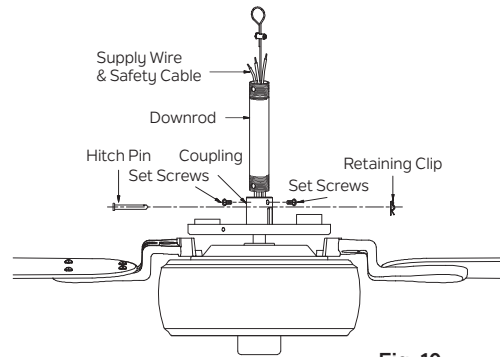

Fig. 10
Step 7. Loosen the two set screws and remove the hitch pin and retaining clip from the coupling on the top of the motor assembly. (Fig. 10)